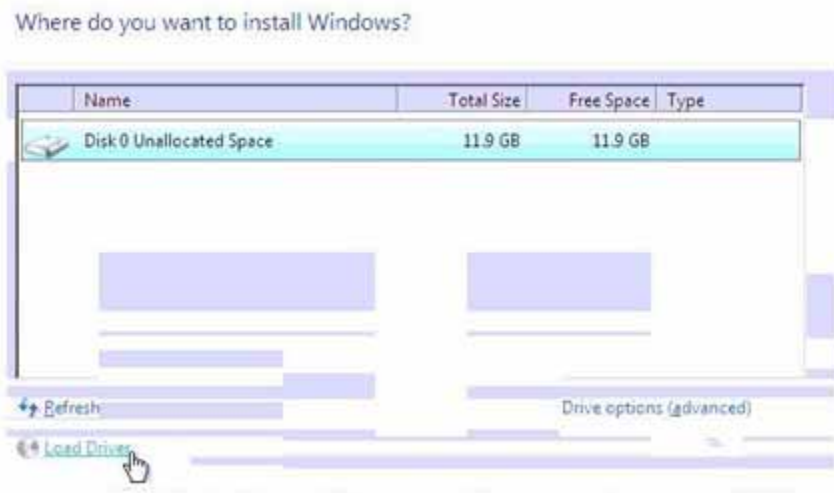

Figure 45 Load driver screen
The **Load driver** screen displays (Figure 45).
9. Select **Load Driver** (Figure 45 on page 67) if booting from the external device and then click **Next** to continue.